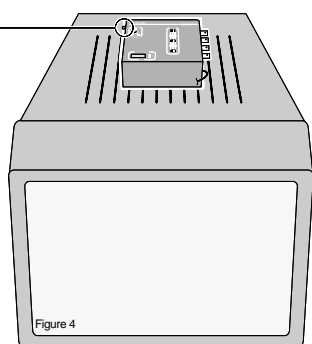

Figure 4
Anti-static, anti-glare or EMI coatings on the face of the CRT may prevent the RGB 118 PLUS SRI from displaying the monitor's scan frequencies properly. Should this occur, an alternate method to obtain a readout is to set the RGB 118 PLUS on top and toward the rear of the monitor as shown in Figures 3 and 4 below. To view the vertical scan frequency using this method, set the RGB 118 PLUS as shown in Figure 3 with the red SRI button toward the rear of the monitor. Press and hold the red SRI button in when the green Vertical (V) LED turns on. To view the horizontal scan frequency, set the RGB 118 PLUS on the monitor as shown in Figure 4. When the red Horizontal (H) led turns on, press and hold the red SRI button until a readout is obtained.